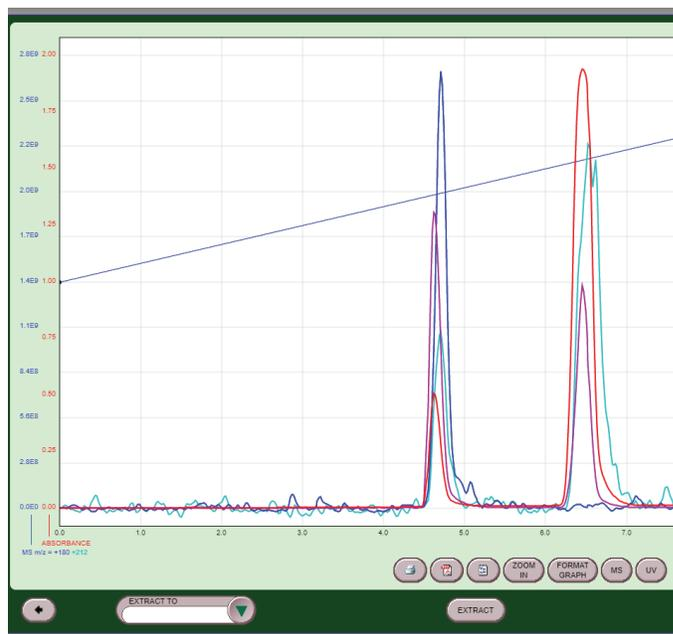

Figure 8: Run results screen with Extract button
2. Select the EXTRACT button at the bottom of the screen (Figure 8).